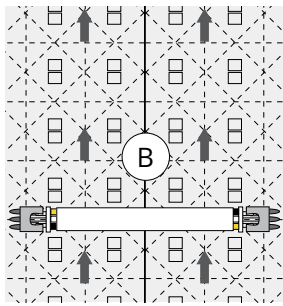
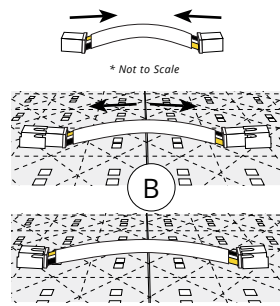

Figure 1
Figure 2
Short sheet-to-sheet connectors (B): When adjacent Auragami Light Sheets are mounted side-by-side with connection blocks aligned, the shorter sheet-to-sheet connection wires (B) should be used to interconnect multiple sheets. Their lengths are optimized so sheets align snugly. See Figure 1. When connecting Light Sheets that are already mounted to a fixed surface, the short connection wires (B) will need to be shaped as shown in Figure 2 prior to pushing into connection blocks. Best practices include using two sheet-to-sheet connection wires in each Class 2 circuit to minimize voltage drop. Dry-fit test for proper illumination prior to mounting Light Sheets to the mounting surface and again before the forward facing material is installed.